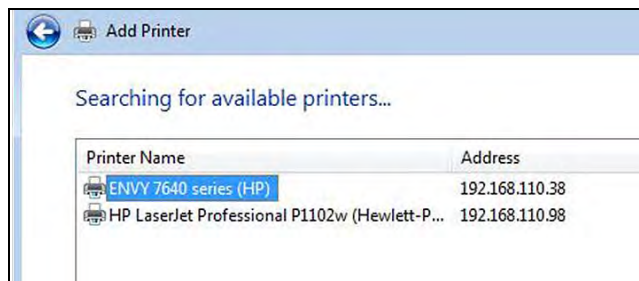

Figure 3-11
7. Follow the onscreen instructions to search, locate and install your printer. Windows automatically searches for available printers on the network (Figure 3-11).
9. Follow the onscreen instructions to search, locate and install your printer. Windows automatically searches for available printers on the network (Figure 3-11).